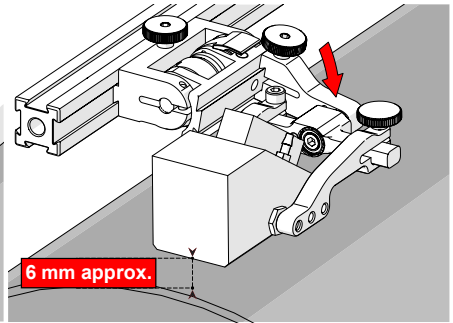

Fig. 138 - Lower to scanning surface
2. Push the probe holder yoke down toward the inspection surface until the wedge is approximately 6 mm ($\frac{1}{4}$ in) above the inspection surface (Fig. 138).